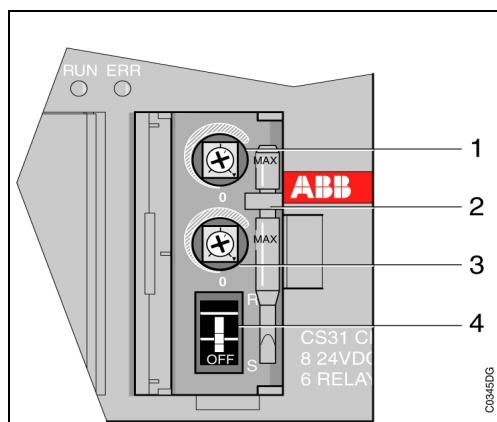

Figure 2-2: Magnification of item 9, cover removed
Magnification of item 9, see figure 2-2 on the previous page